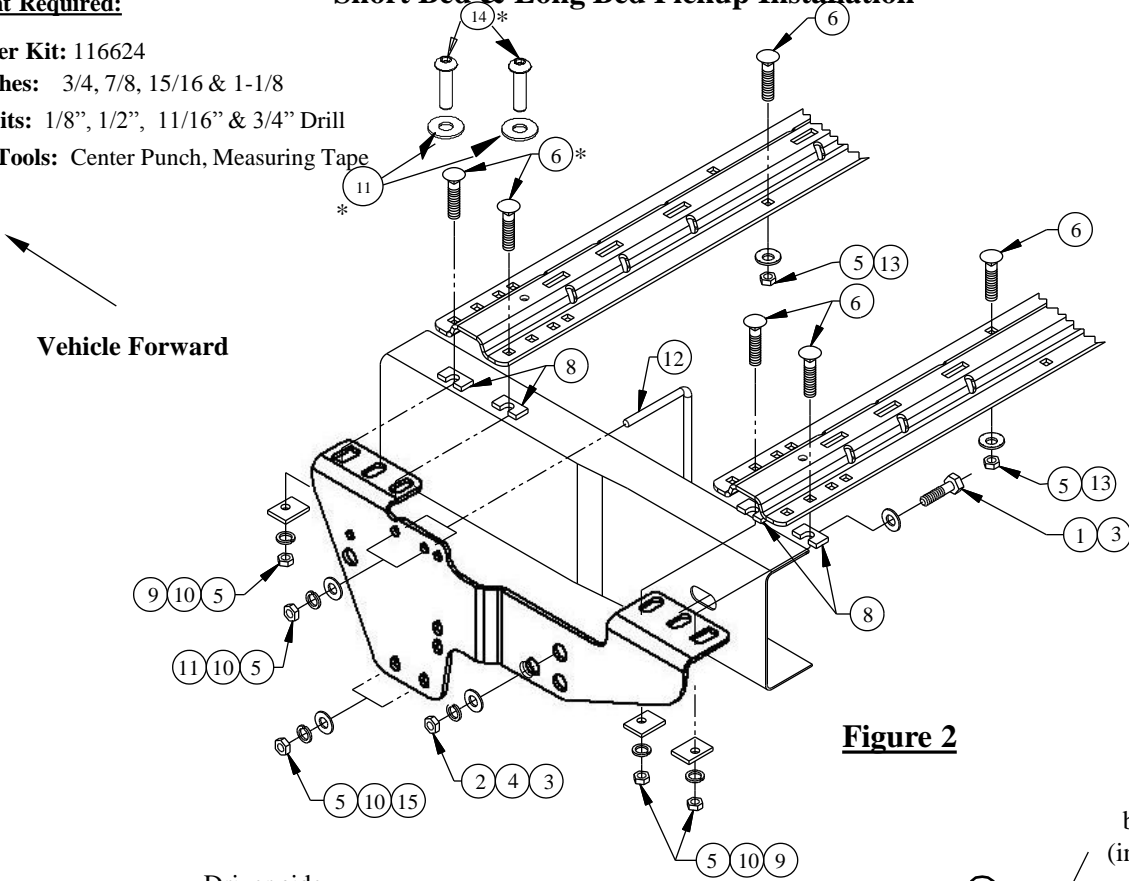
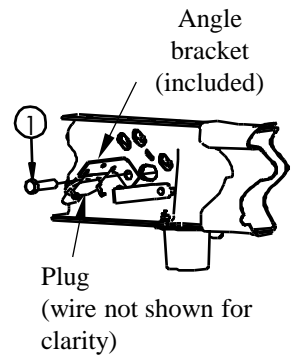

Figure 2
Figure 2c
7. Fasten the frame brackets to the vehicle frame rails as shown in Figure 2(forward hole can be drilled as an optional installation, to replace the U-bolt attachment if preferred, either installation is approved, see page 7 for drilling instructions). On 2007 “New Body Style” Pickups with OE Brake Controller, refer to installation step 2 to relocate the plug with the angle bracket. Use the 3/4” X 1.50 bolt to attach the angle bracket to the inside of the frame (see Figure 2c)).